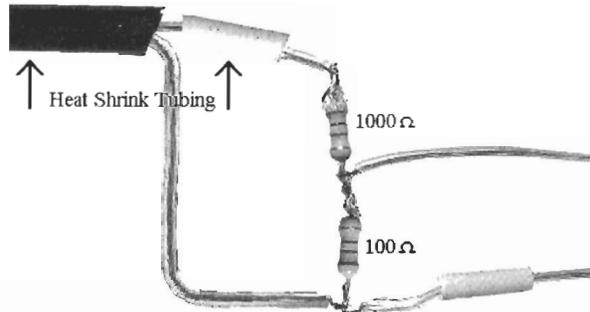

Figure L28-6
5. Slide skinny heat shrink tubing onto each line before you solder. The heat shrink tubing is easier to use than tape. The layout is shown here in Figure L28-6.